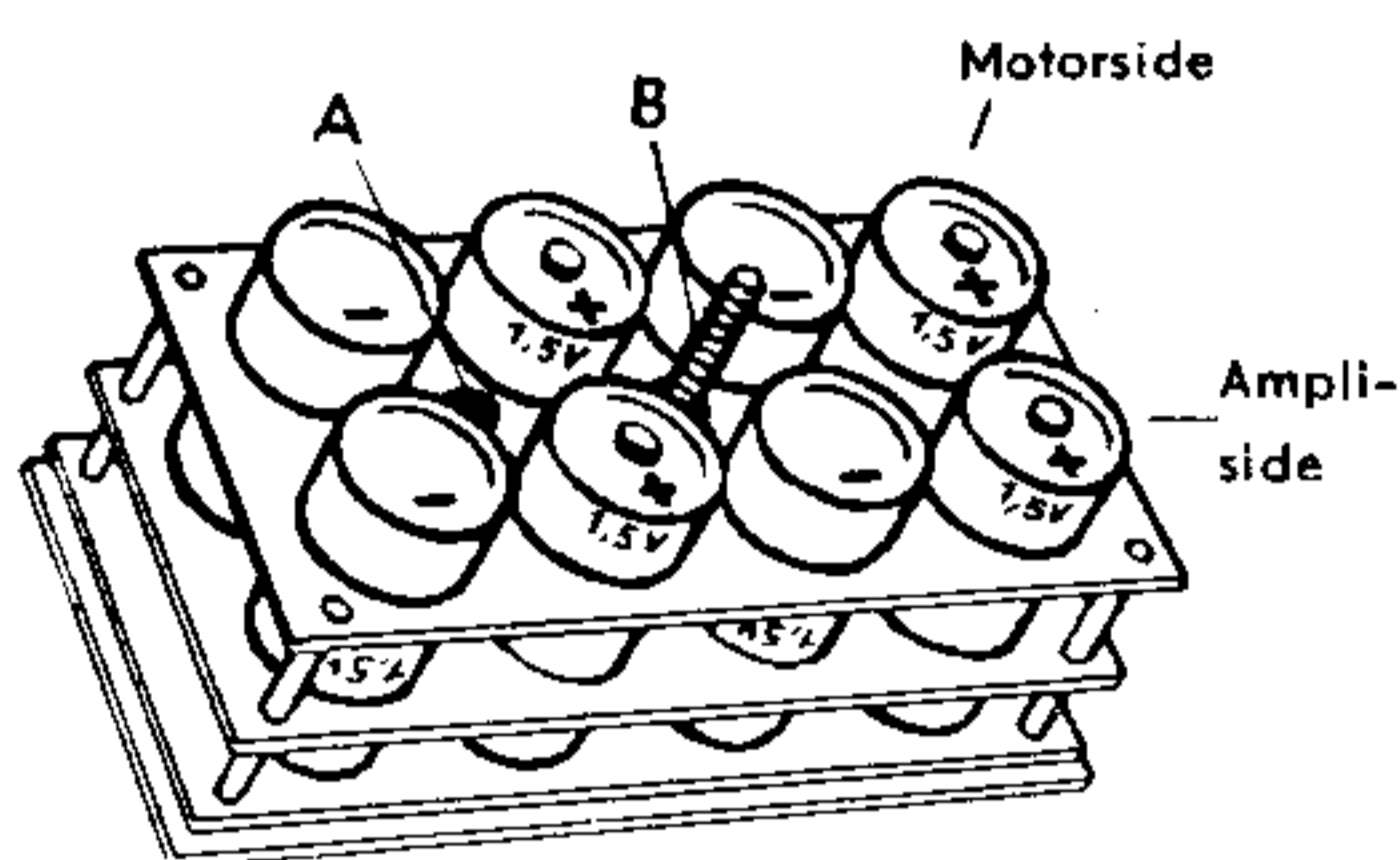

Fig. 2
Attention: If batteries have been fitted uncorrectly the tape recorder will not operate and fuses may blow. (See fig. 2).
4. For the battery holder to be inserted correctly, pin "A" must fit into hole "A" in the holder. (See figs. 2 and 4). Press the battery holder well into position and tighten screw "B" well.